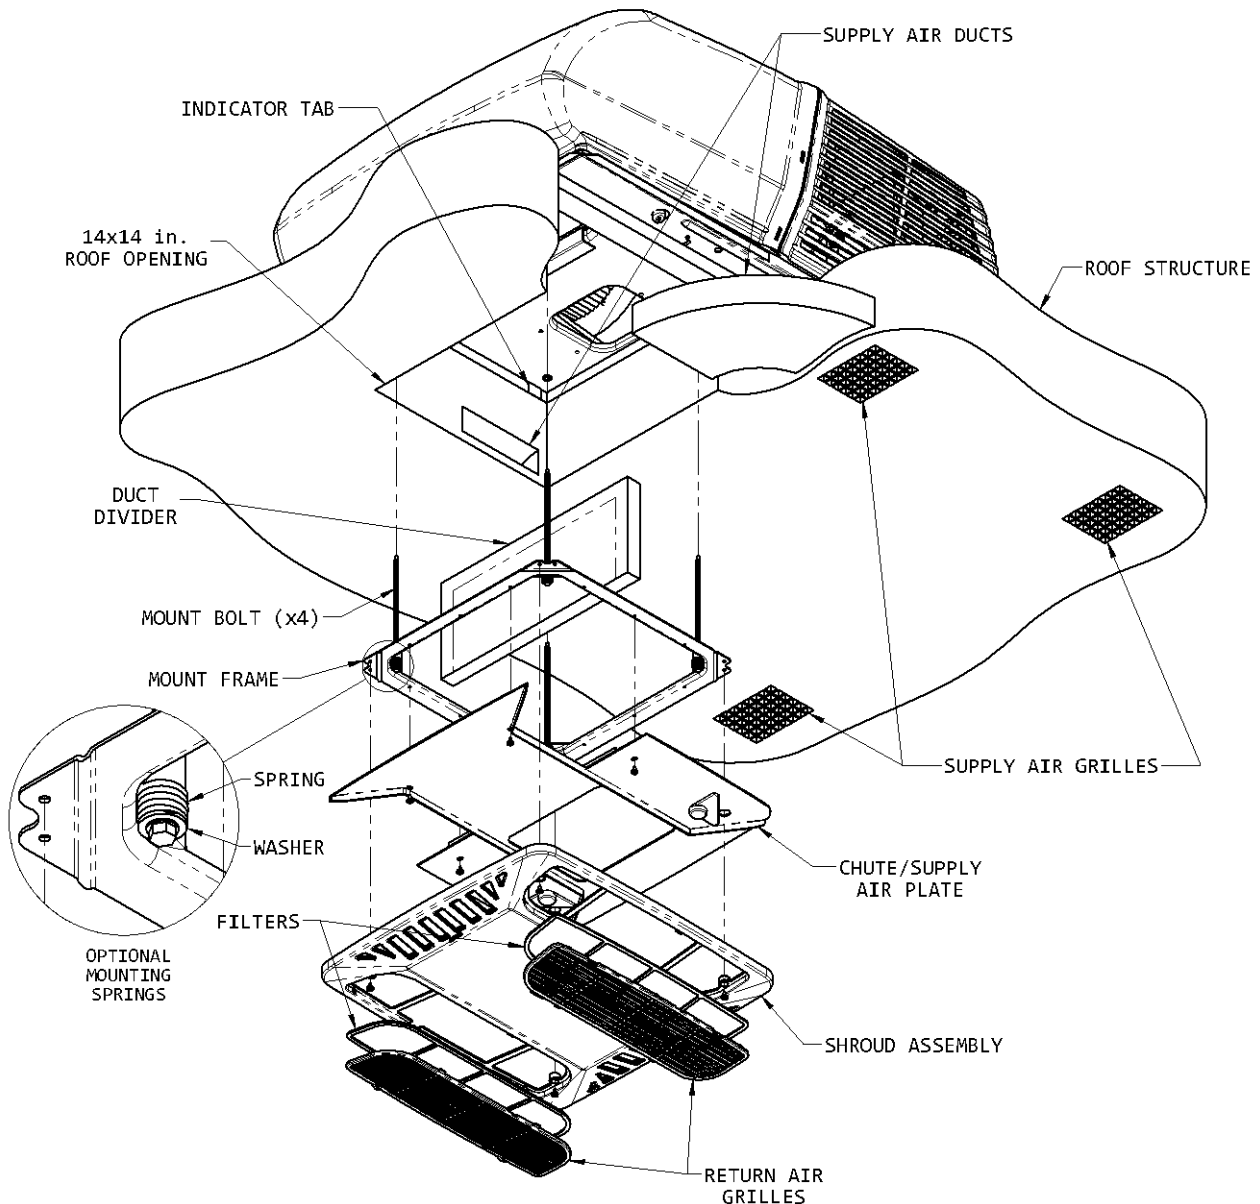

FIGURE 1
1. The field fabricated supply ducting must open into both ends of the ceiling plenum. Two ducts are required; one duct attached to the front, and one to the rear of the plenum (See Figure 1).
2. Position the mount frame into the ceiling opening (See Figure 1).
3. Using the four bolts provided, secure the mount frame to the roof top unit. The four mounting bolts are to be applied up through the bottom of the mount frame and into the bottom of the roof top unit (See Figure 1). Tighten each bolt until the indicators of the gasket are at roof level.
1. Raise the chute/supply air plate to the mount frame and ensure the plenum duct divider is positioned between the two ribs. Install the chute/supply air plate to the mount frame with 4 screws provided in the parts package (See Figure 1).